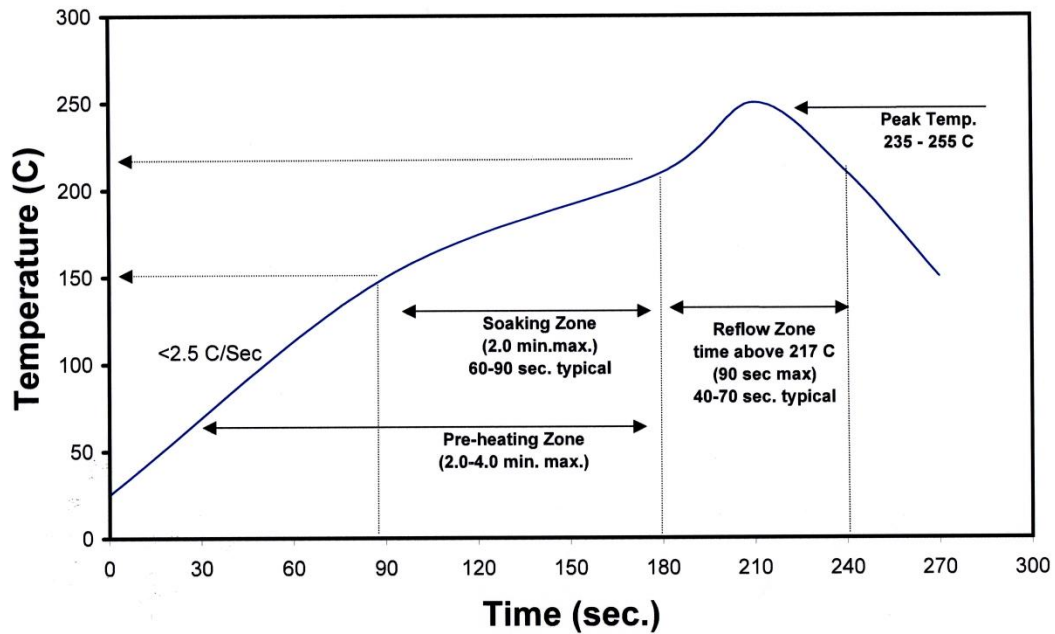

Figure 3: Reflow soldering profile for lead free soldering.
- Solder conditions per JEDEC 020C. See Reflow Soldering Profile Figure 3.